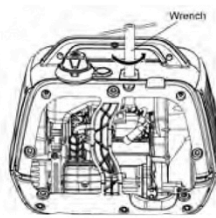

Fig 15C
4. Use the wrench to remove the spark plug. (Fig. 15C)